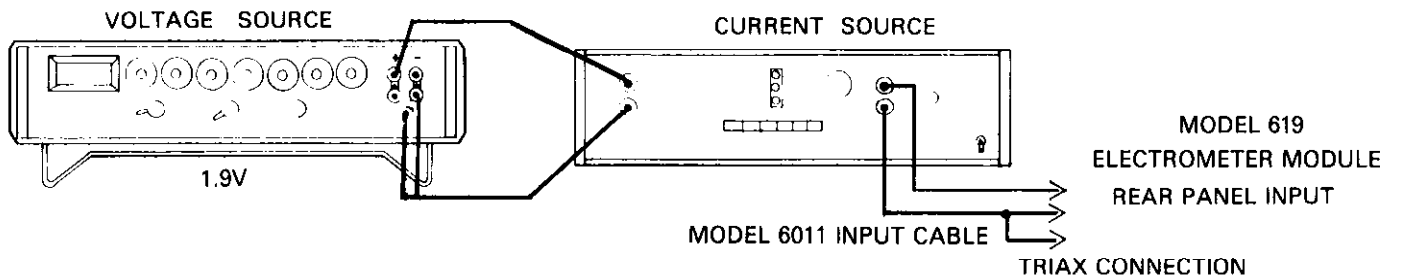

Figure 6-5. Range Calibration 20mA
6. 20mA Range Calibration: Zero Check the Model 619 and set it to the Amps function. Uprange to the 20mA range and verify a display reading of 19.000 -3 using Zero Correct if necessary. Release Zero Check and apply a +19.000mA input, adjust R651 for a display reading of 19.000 -3 to within  $\pm 2$  counts. Refer to Figure 6-5.